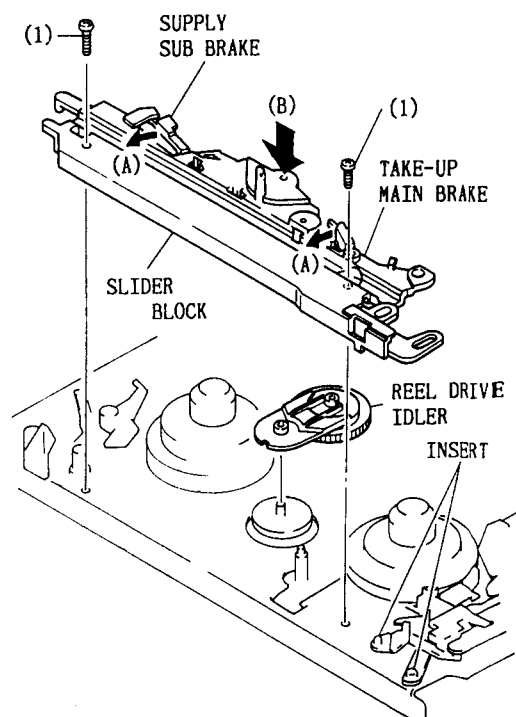

Fig. 7-6 Slider Block and Reel Drive Idler
6. Slider Block and Reel Drive Idler Slider Block (Fig. 7-6)
Reel Drive Idler (Fig. 7-6)